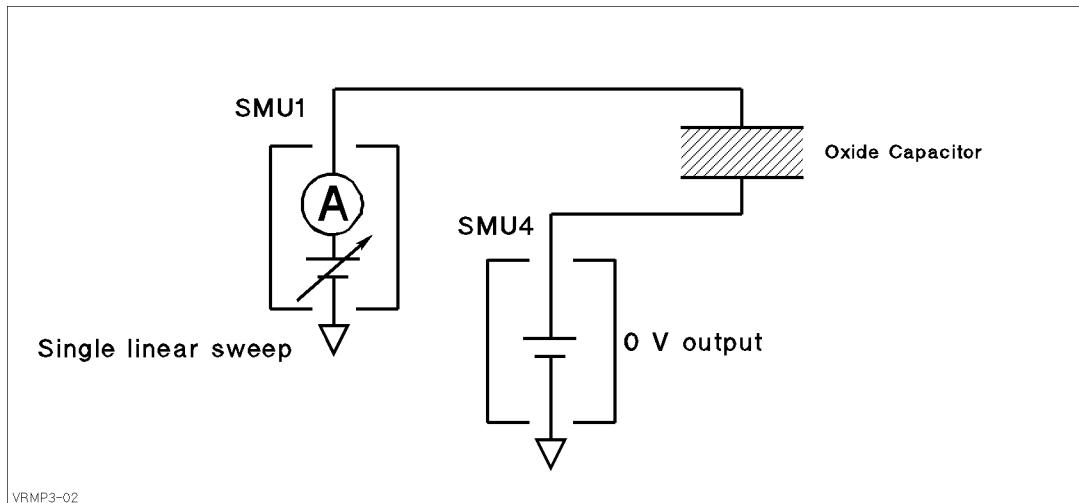
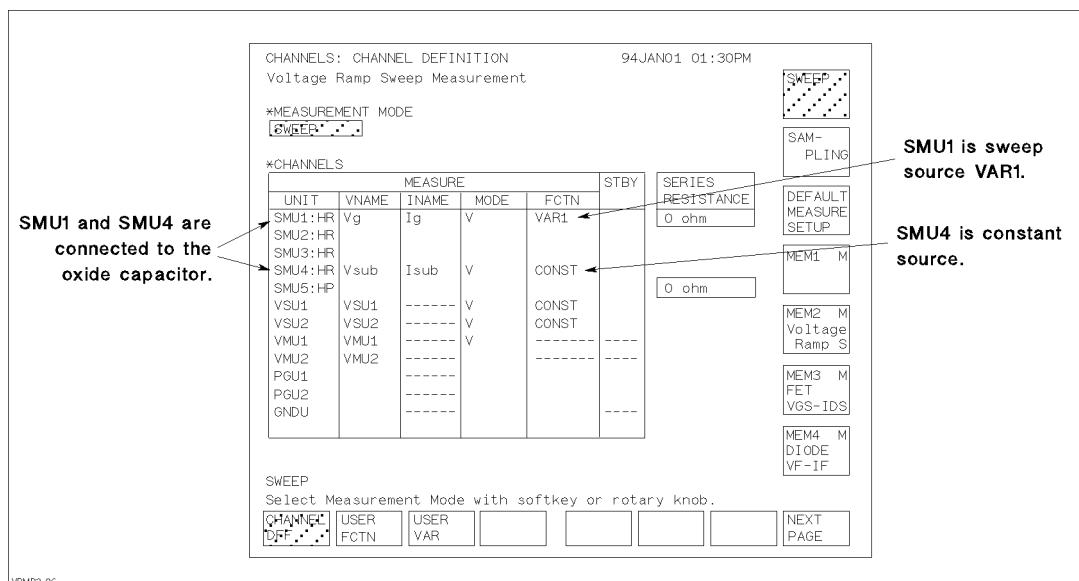

Figure 3-3. Simplified Measurement Circuit of Ramp Stress Test
Figure 3-4. CHANNELS: CHANNEL DEFINITION Page for Ramp Stress Test
- SMU channel definition (see Figure 3-3):
The sample program assumes the connection between the SMUs and the oxide capacitor as shown in Figure 3-3. SMU4 is set to force a constant 0 V, and SMU1 is set to voltage sweep mode by the VRSWEP.MES setup as shown in Figure 3-4.